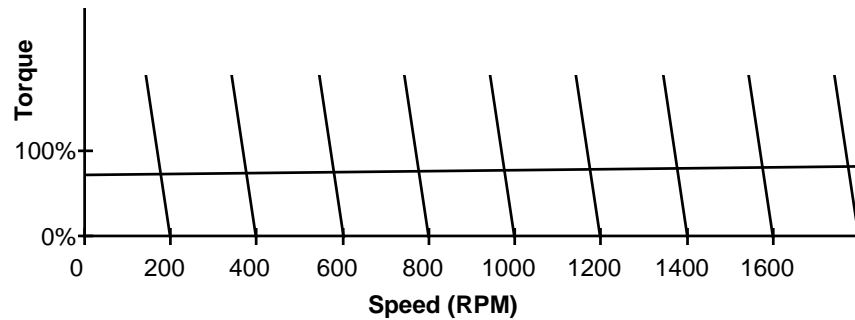

Figure 5 DC Drive Torque -- Speed Curves
Figure 5 shows torque-speed curves for a DC drive with armature voltage regulation. For either a DC drive or an AC drive, the drive's torque-speed curves are an infinite number of parallel lines that are nearly vertical.
The speed of a DC motor is proportional to the counter EMF voltage (V_{EMF}) generated by the armature. V_{EMF} and thus speed is related to motor terminal voltage (V_T) by the equation, $V_{EMF} = V_T - I_A \times R_A - BD$. The IR voltage drop and the voltage drop across the commutator brushes (BD) cause the difference between V_{EMF} and V_T to increase as the load increases. This voltage difference causes *Speed Droop*. Speed droop causes the DC motor torque-speed curves to "droop" from the ideal vertical line as shown in figure 5. IR compensation increases V_T as the load increases in order to compensate for the voltage drops and make the torque-speed curves more nearly vertical.